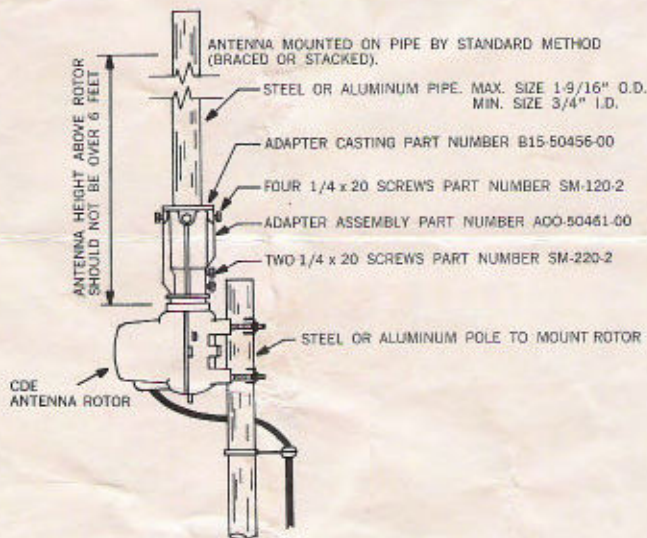

FIG. 1.
1. Install antenna rotor on rotor mounting pole using clamps, nuts and lockwashers furnished with antenna rotor. Refer to installation instructions furnished with antenna rotor. Install as shown in figure 1.